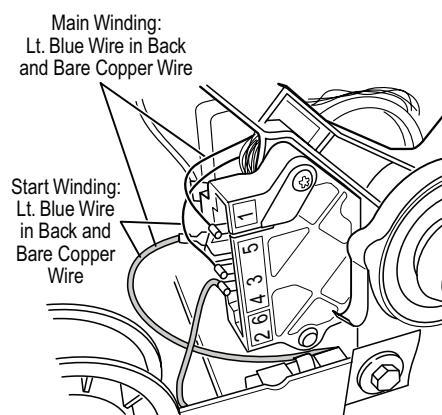

Figure 9. Main and start winding measure points.
6. Using Figure 9, check for the resistance values of the motor's Main and Start winding coils as shown below.